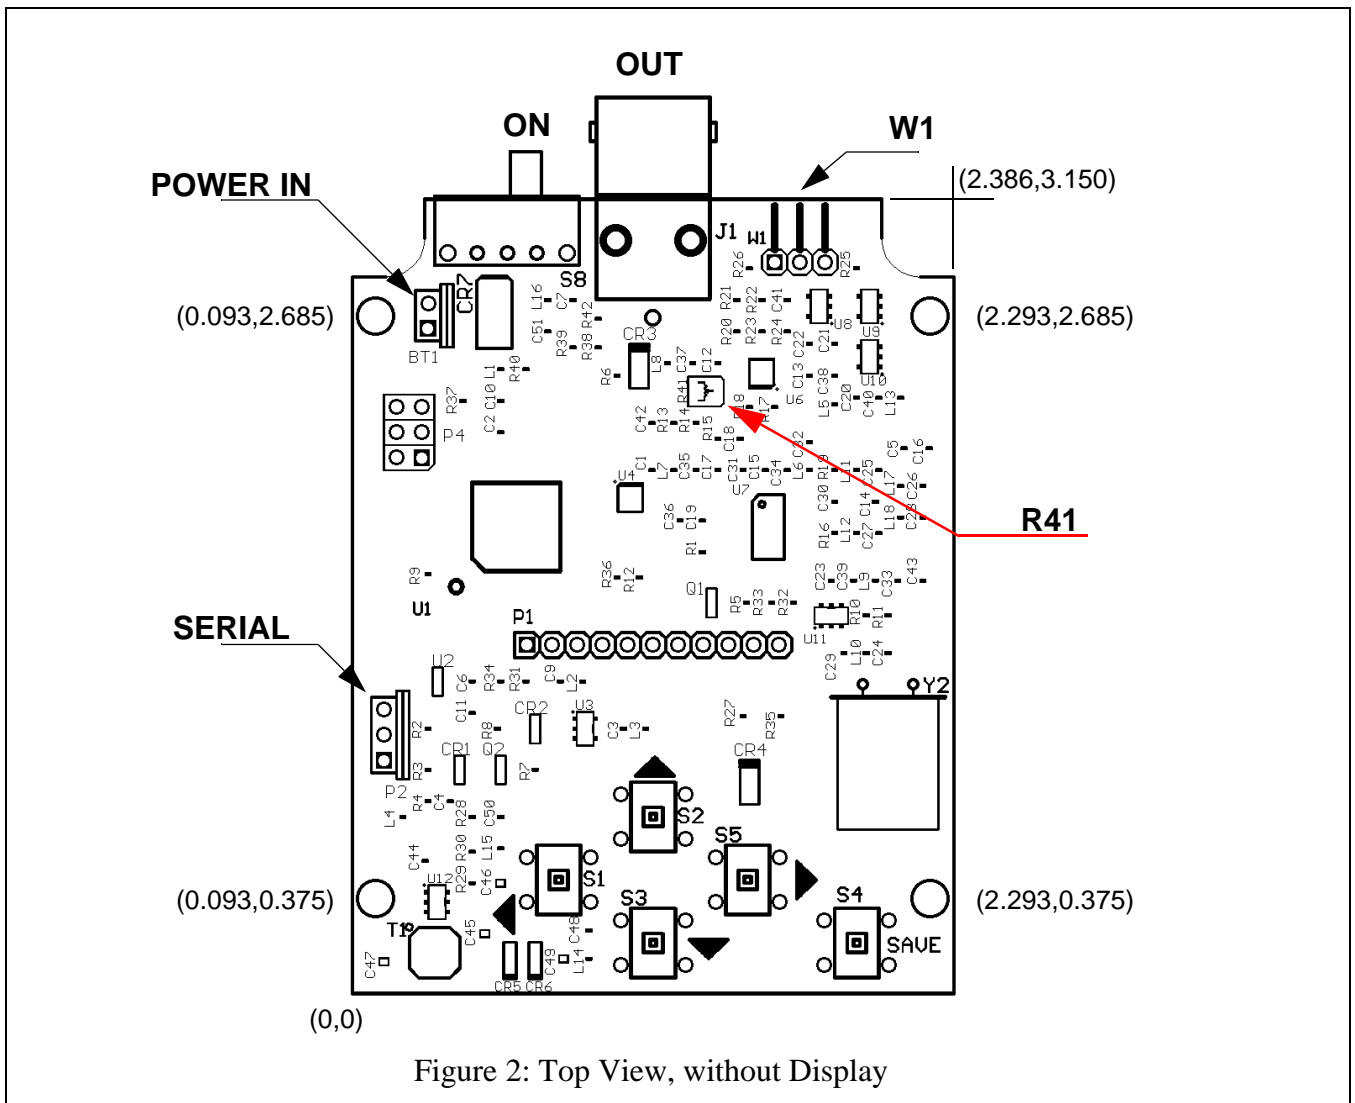

Figure 2: Top View, without Display
3.13 Mounting. The 101A board provides mounting holes suitable for use with #4 or 2.5mm screws. The holes are connected to circuit common (ground). As provided, these holes have rubber mounting feet installed. Clip them out if you wish to mount your board. A clearance of 3mm (0.125 inch) is necessary if a metal or other conducting substrate is used. See Figure 2 for hole locations.